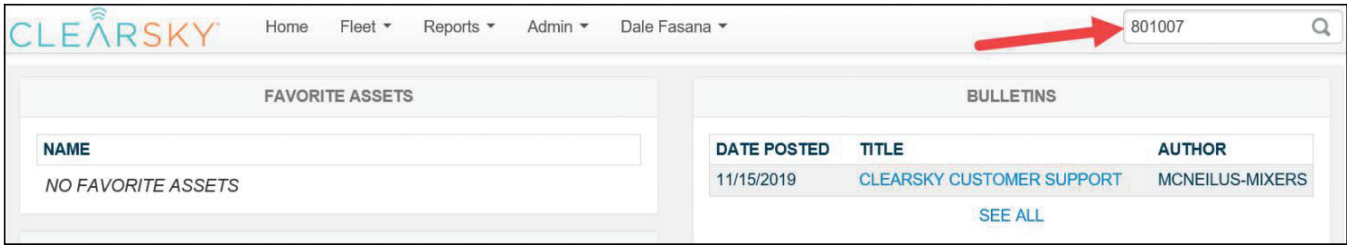

Figure 31
- 65. Search for truck serial number (last six digits of truck VIN) in ClearSky search window. See Figure 31.